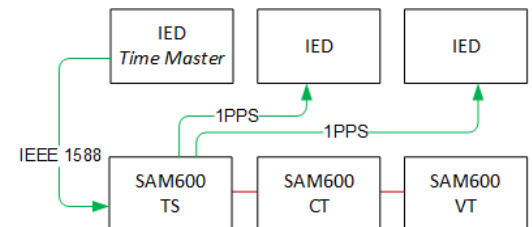

Figure 4: PPS synchronization
- *Synchronization by 1PPS* - A PPS from an external clock is used to synchronize a SAM600 system (see Figure 4) through SAM600-TS with an accuracy of 1µs in order to ensure synchronous sampling. The SAM600-TS module replicates the 1PPS information to the 1PPS outputs and synchronizes the SAM600 system internally through IEEE 1588 against the 1PPS input.